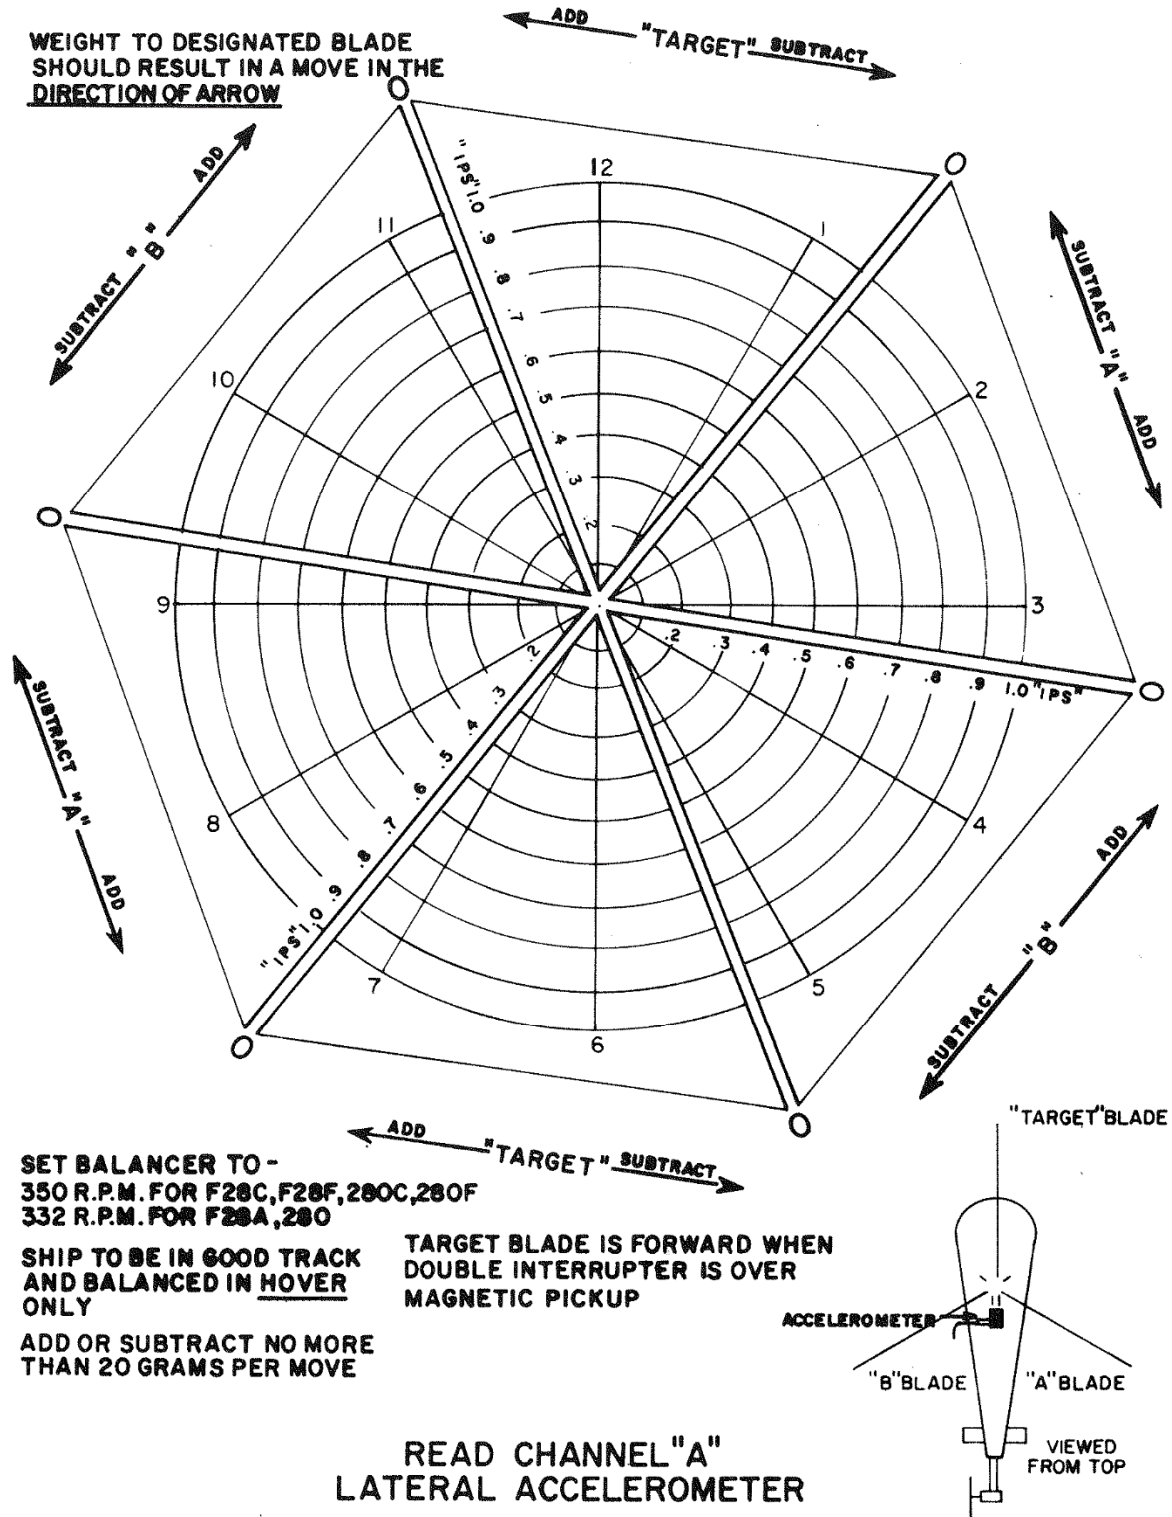

Figure 12-5. Lateral Accelerometer Channel "A" Polar Chart
3. The Lateral Accelerometer Channel "A" Polar Chart (Figure 12-5) can be used to help determine which axis (lead-lag bearing, damper, or out-of-balance blade is causing the lateral vibration.